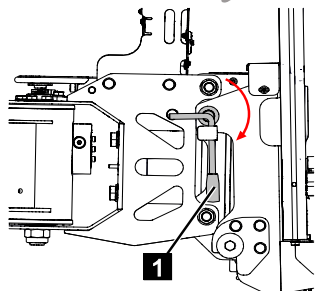

Fig. 154
4. Turn the basket locking pin (Fig.154/1) clockwise through 90°.